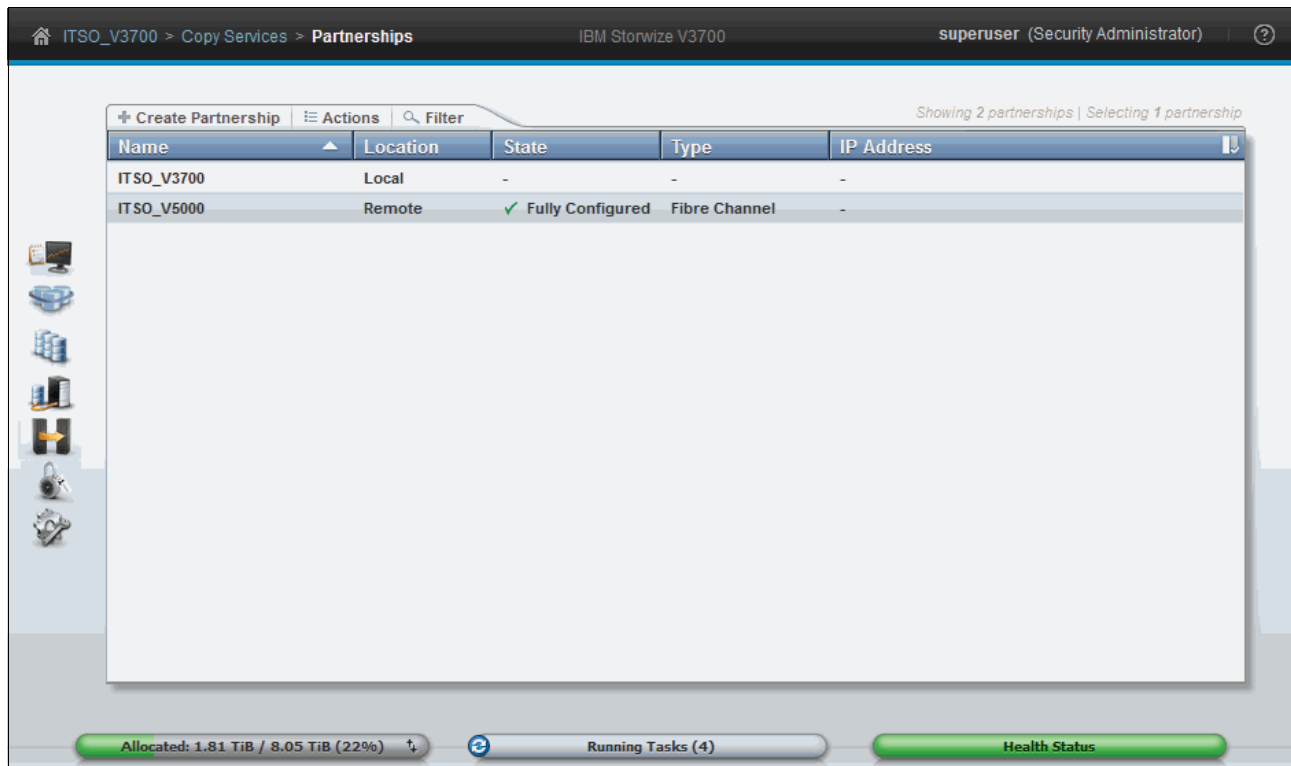

Figure 10-92 Fully configured partnership
12. Complete the same steps on the second storage system for the partnership to become fully configured. The Remote Copy partnership is now complete between the two IBM Storwize systems, as shown in Figure 10-92, and both systems are ready for Remote Copy relationships to be configured.